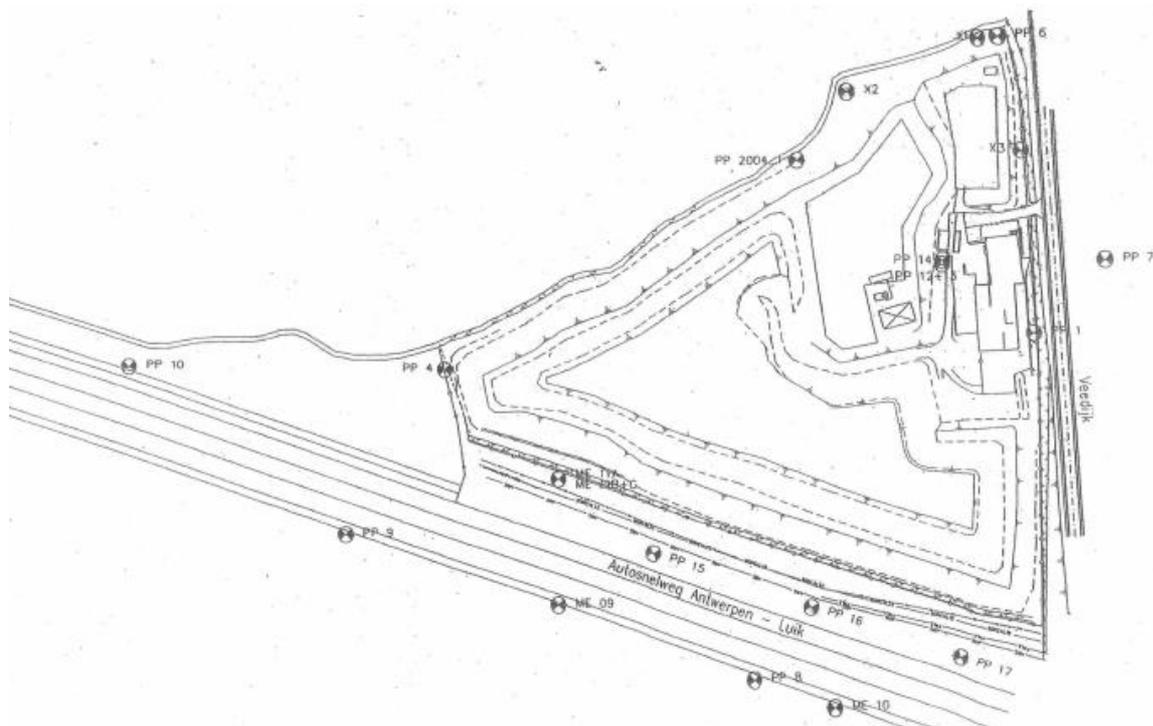

Figure 6 - Location of all monitoring wells on the site.
The site vegetation is visualised in **Figure 6**. In the northern corner of the site grass was identified as the most dominant type of vegetation. Contrastingly, more vegetation was found at the higher parts of the landfill in the south. This vegetation mostly consists of shrubs, small trees and some herbs.
*Figure 6: Photos of Meerhout landfill (13/10/2017) – arrows and letters in the picture A (aerial photo) indicate the location at which the different photos were taken.*